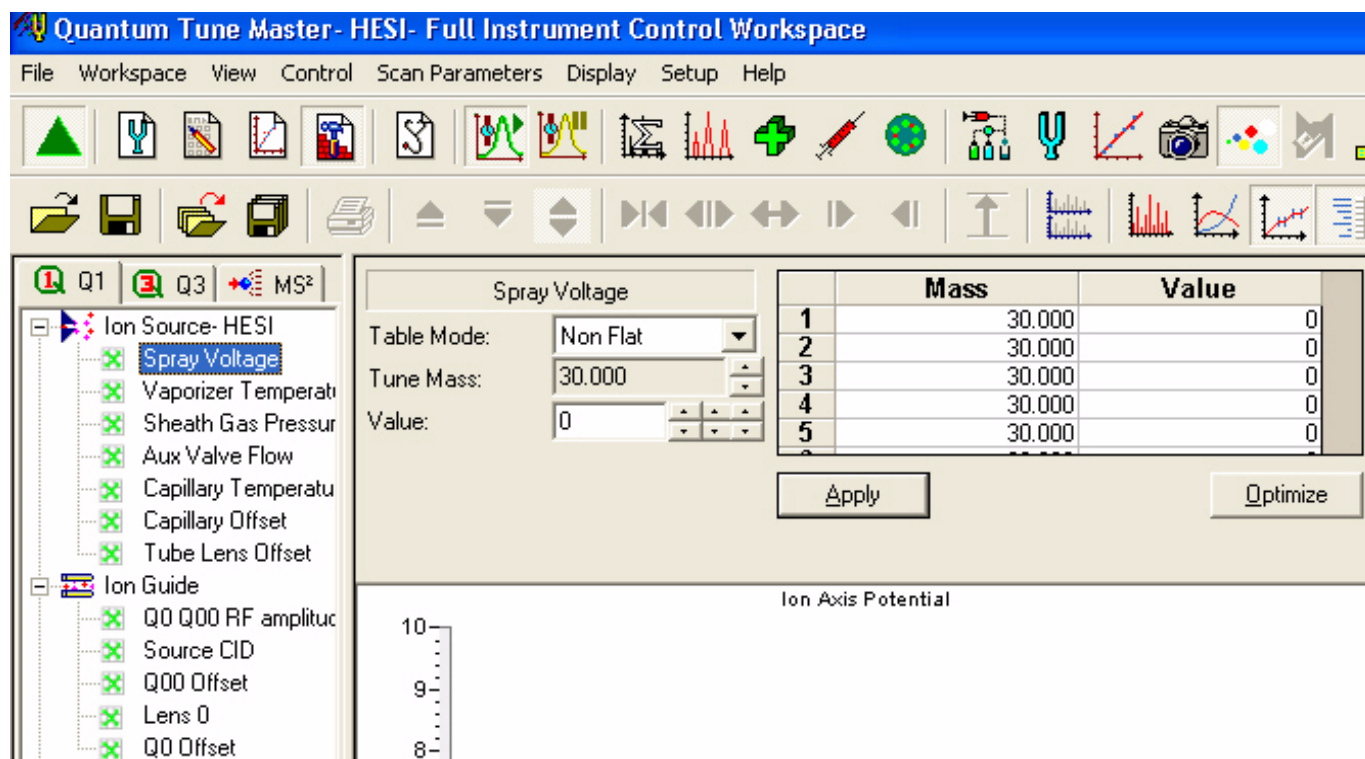

Figure 27. Spray voltage selected in the Device view and displayed in the Tune Table view
15. Click the **Full Instrument Control** button to display the Device view and Tune Table view, as Figure 27 shows.